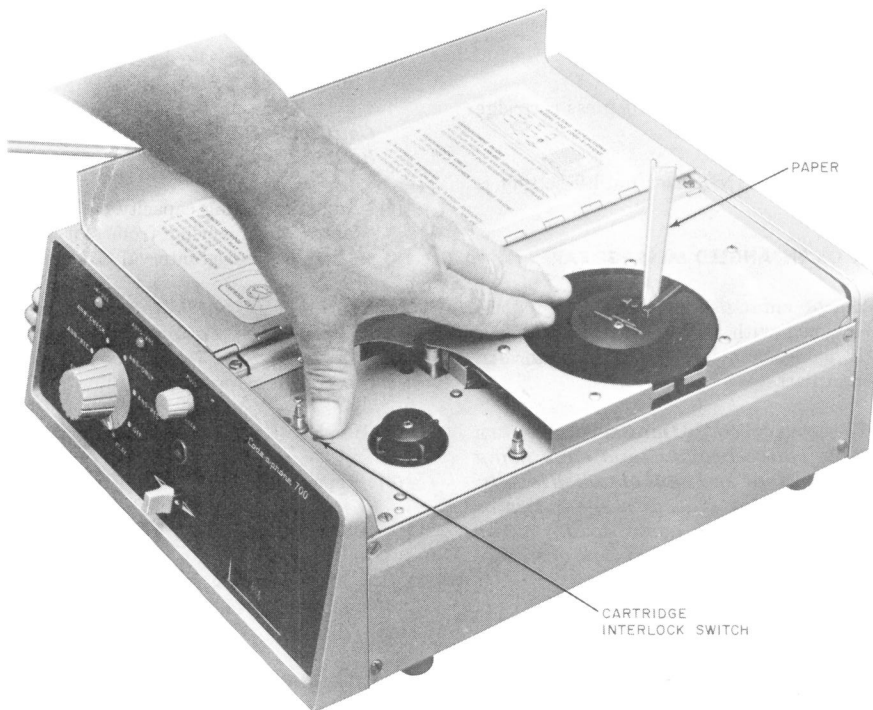

Fig. 7—Resetting "0" Registration on Message Indicator Dial
- (1) ⚡Remove top cover (2.01).
- (2) Remove list cartridge (6.01).
- (3) Remove four screws and remove side cover (Fig. 7).
- (1) Rewind tape into cartridge (0 setting on message indicator dial).
- (2) Set function selector to off.
- (3) Remove tape end from take-up reel by depressing and backing out of slot.
- (4) Turn cartridge hub clockwise by hand to rewind remaining tape into cartridge.
- (5) Grasp cartridge and lift up.
6.02 Cartridge Installation (Fig. 7):
- (1) Rotate cartridge hub (Fig. 7) by hand in either direction to set dial at 0.
For more rapid resetting, run set in rewind as follows (Fig. 7):